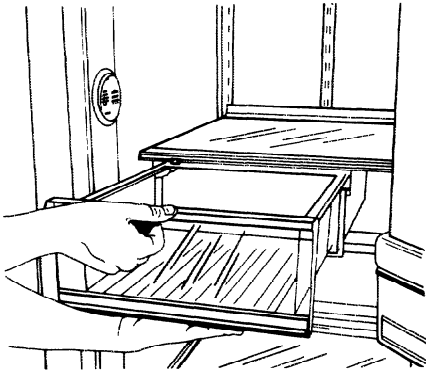

FIGURE 47
2. Lift up slightly to release notches in the grooves. See Figure 47.